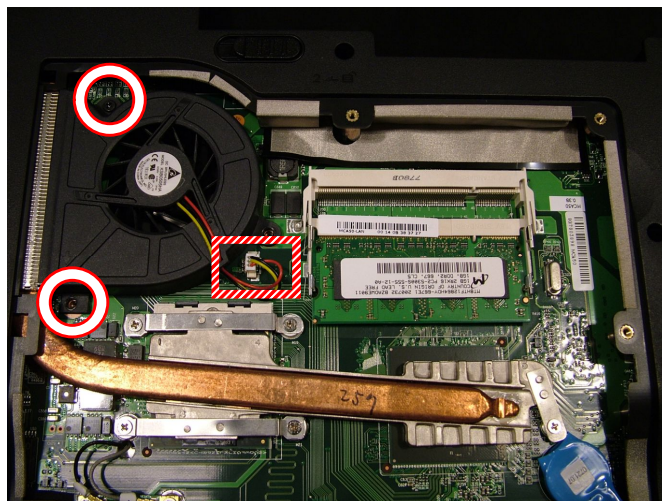

Fig. 8 Location of CPU fan screws.
3. Disconnect the power cable and remove the CPU fan (see Fig. 8).